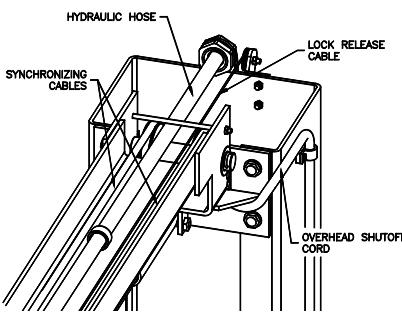

Fig 7 – Hose Routing (Power Side)
- 24) Note: If lift is set to the tallest column height an 18 1/2" extension hose must be used at the base of the Idler hydraulic cylinder. Beginning on the idler side start with the Idler Column Hose (long) up the backside of the column through the two capture rings and guide at the top of the extension. Continue across the overhead through each of the guides as shown and down the backside of the power column. **See Fig 7.**